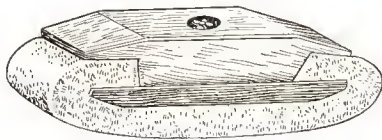

FIG. 47
**Felt Rubbing Pad:** Figure 47. Used to rub the gloss and roughness off of painted, enameled and varnished surfaces with pumice stone and water or oil for very fine polished finishes. Size:  $2\frac{1}{4}$  in. wide and 6 inches long.